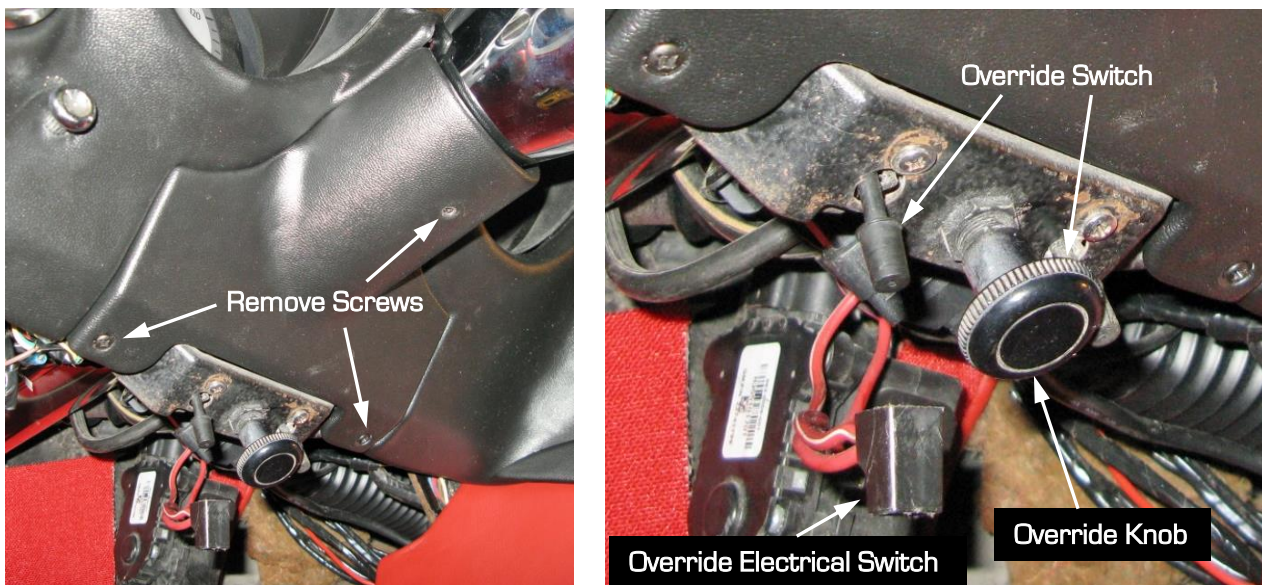

Figure 19 - Remove Lower Column Cover
21. To remove the steering column, start by removing the 3 screws from the lower column cover. You may find the vacuum over ride switches and/or the wiper over ride electrical switch (1968-72) attached to the cover (Figure 19). Remove the lower left hand side dash vent duct.